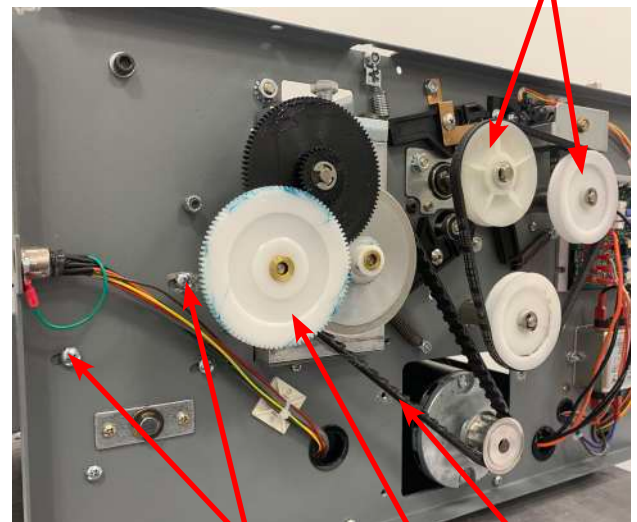

Fig. 50b
7. Remove large white pulley and smaller white pulley above it from the studs (Fig. 50b).
8. Remove the upper conveyor shaft gear (Fig. 50b).